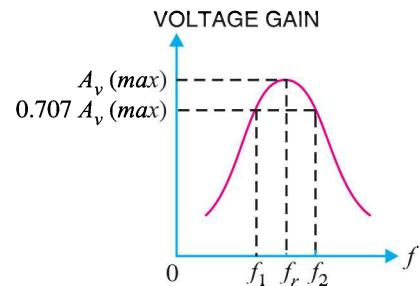

Fig. 15.7
The value of  $Z_C$  and hence gain strongly depends upon frequency in the tuned amplifier. As  $Z_C$  is maximum at resonant frequency, therefore, voltage gain will be maximum at this frequency. The value of  $Z_C$  and gain decrease as the frequency is varied above and below the resonant frequency. Fig. 15.7 shows the frequency response of a tuned amplifier. It is clear that voltage gain is maximum at resonant frequency and falls off as the frequency is varied in either direction from resonance.
**Bandwidth.** The range of frequencies at which the voltage gain of the tuned amplifier falls to 70.7 % of the maximum gain is called its *bandwidth*. Referring to Fig. 15.7, the bandwidth of tuned amplifier is  $f_2 - f_1$ . The amplifier will amplify nicely any signal in this frequency range. The bandwidth of tuned amplifier depends upon the value of  $Q$  of  $LC$  circuit *i.e.* upon the sharpness of the frequency response. The greater the value of  $Q$  of tuned circuit, the lesser is the bandwidth of the amplifier and *vice-versa*. In practice, the value of  $Q$  of  $LC$  circuit is made such so as to permit the amplification of desired narrow band of high frequencies.
In practice, the ideal characteristics of the tuned amplifier cannot be achieved. In a practical frequency response (refer back to Fig. 15.7), the gain falls gradually from maximum value as the frequency goes outside the  $f_1$  or  $f_2$  limits. However, the closer the frequency response of a tuned amplifier to that of the ideal, the better.